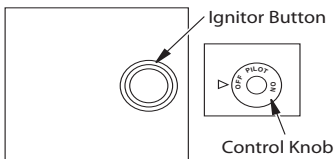

Figure 45 - Control Knob and Ignitor Button Location
5. Wait five (5) minutes to clear out any gas. Then smell for gas, including near the floor. If you smell gas, STOP! Follow "B" in the safety information, column 1. If you don't smell gas, go to the next step.
6. Press in and turn control knob counterclockwise ↻ to the PILOT position. Press in control knob for five (5) seconds (see Figure 45).